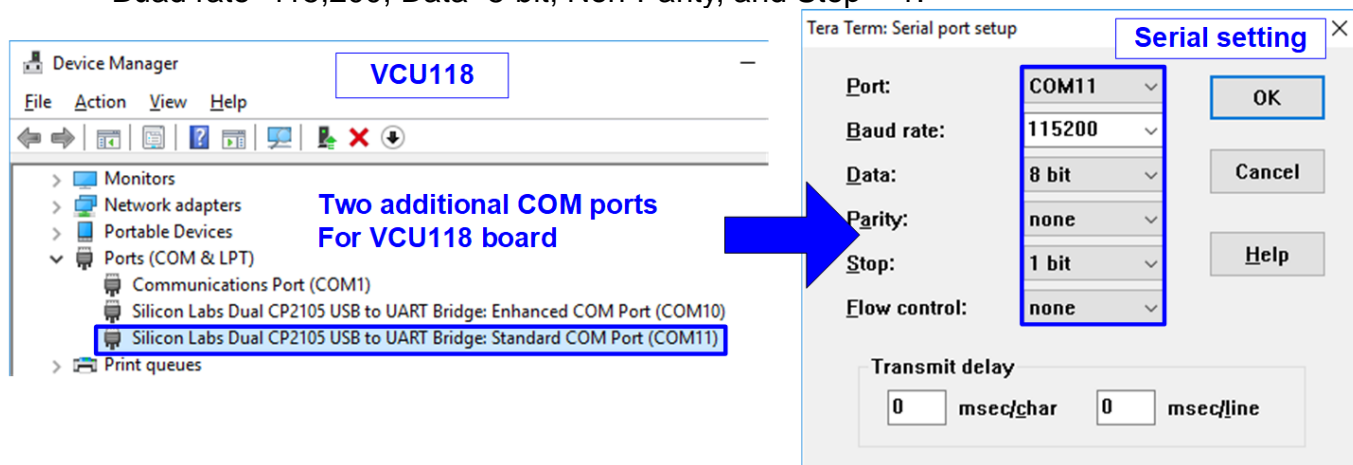

Figure 2-5 Select and set COM port
- 5) On PC, the additional COM ports are detected after connecting USB cables to FPGA board. There are more than one COM ports detected. Select Standard COM port, COM11 in Figure 2-5.